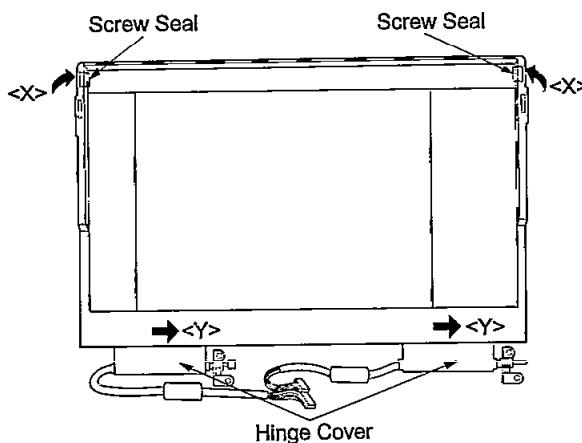

Figure 24
- (1) After removing the display panel, remove two screw seals in the direction of the arrow <X>.
- (2) Slide the hinge covers in the direction of the arrow <Y>, then remove them as shown in Figure 24.